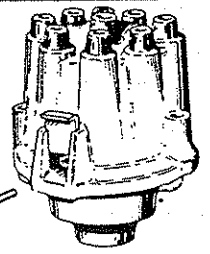

FIGURE 7.
- B. Raise the metal window and turn the point adjusting screw with an 1/8" Allen wrench until the dwell reading is the same as specified by the manufacturer. (FIGURE 7)